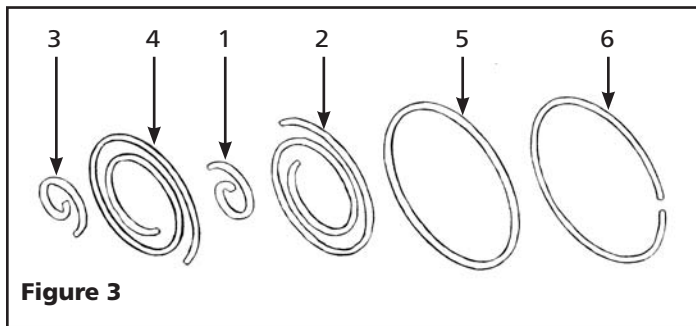

Figure 3
2. Confirm if the following parts are included (See Figure 3).